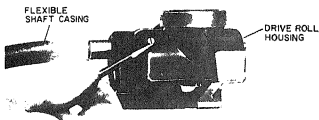

Figure 6. Removing Anchoring Screw for Flexible Shaft Casing
c. Remove protective caps from the flexible shaft and push square shank-end into casing (Fig. 6) to expose the tapped fitting at the other end.